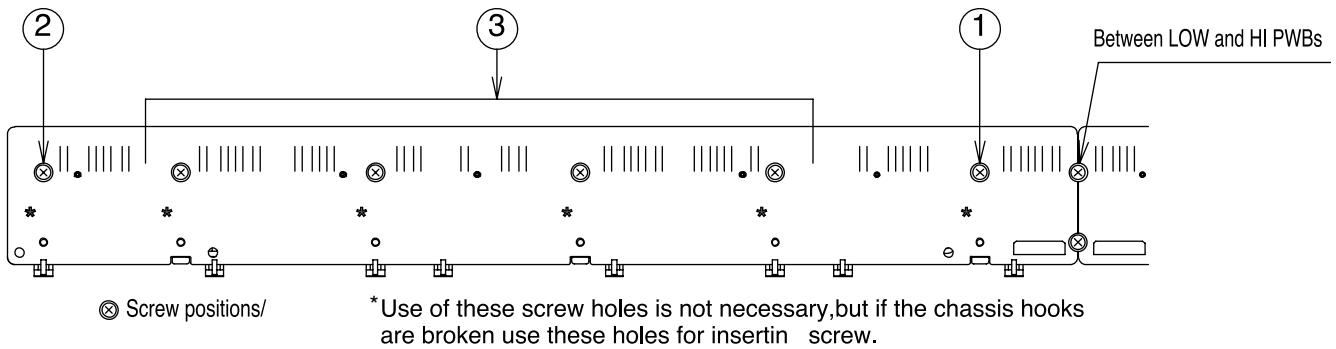

Fig.5
- Then, using the screws, fasten the LOW and HI PCBs to the chassis from the center of the keyboard, that is, from the LOW PCB as shown in fig.5. While you are screwing down the PCB, it may float from the chassis. To avoid this, after screwing in the PCB at the center of the keyboard, screw down opposite end, before screwing in other areas in the middle of the PCB. (See fig.5) In addition, the PCBs may be warped by soldering, etc. It is recommended that each PCB be fastened with screws while holding down the middle of the PCB lightly. Finally, screw down the adjacent area between the LOW and HI PCBs.